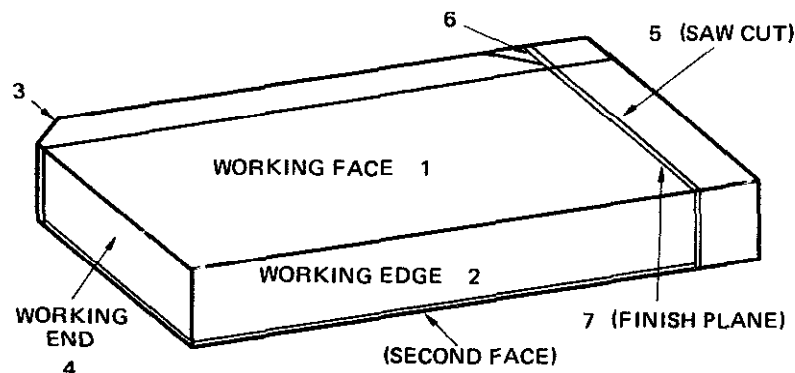

Fig. 8-37 Sequence of cuts for squaring a board.
1. Plane the better of the two faces until it is straight and true. This is now referred to as the working face. See 1, figure 8-37.
NOTE: Numbers 1 through 9 in figure 8-37 indicate the sequence of cuts.